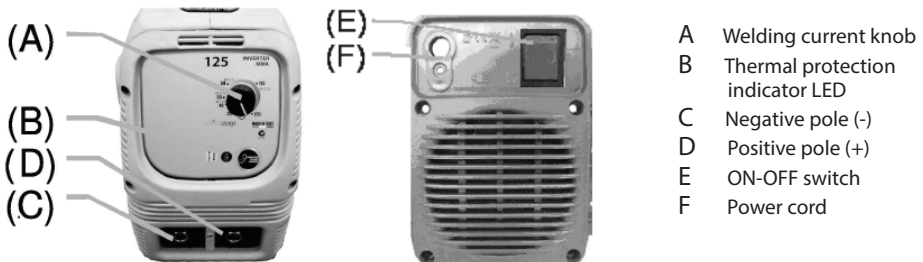

Fig 1
- Select the proper electrode polarity (direct or reverse) of the electrode (for more information see the general part of the safety manual and the information on the electrode packaging). Connect the plugs of the work clamp and the electrode holder to the sockets of the machine (Fig 1, C and D) as function of the polarity, rotating the attack in order to ensure a good grip.
- Insert the power supply plug into the power outlet and turn on the welding machine by pressing the switch (Fig 1, E) to the I position.
- Select the welding current (FIG 1, A) as a function of the type of electrode selected.